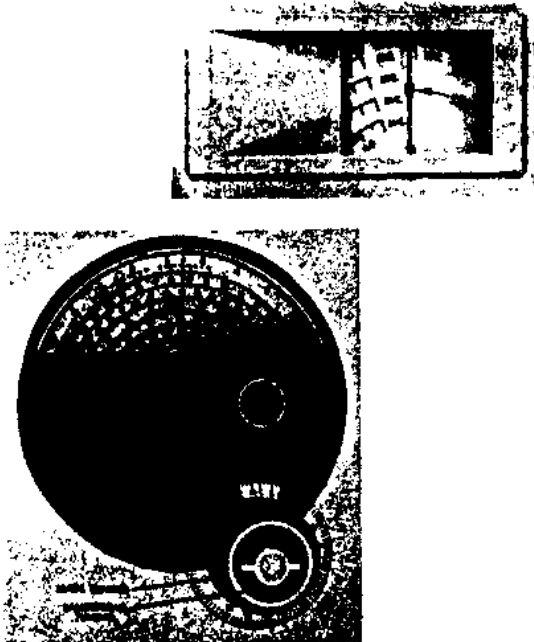
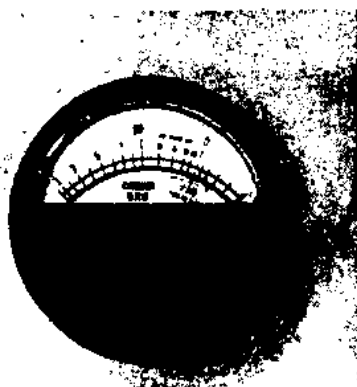

Figure 6. View showing Bandspread and Main Tuning Dials
Figure 7. View showing Carrier Meter
5. Set the bandspread (fine tuning) dial to 0 (See Fig. 6) by turning the outer or metal knob on the tuning assembly. If the bandspread dial doesn't move, operate the locking knob (See Fig. 6) by turning to the right to unlock the bandspread dial. After setting the bandspread dial to zero, again turn the locking knob to the right to lock the bandspread.
6. Now tune in stations by tuning with the main control knob. (See Fig. 6.) As the station is tuned in, the carrier meter needle (See Fig. 7) will move from the left side of the scale to the
8. The frequency calibration on the main tuning dial for the broadcast band is shown on the scale at the bottom of the dial. (See Fig. 6.) This scale as all other scales is calibrated in mc (megacycles) and tunes over the broadcast band from .54 to 1.62 mc (in kilocycles 540 to 1620 kc). For example, radio station WGN Chicago is 720 kc or .72 mc. Just divide kc by 1000 to get mc.